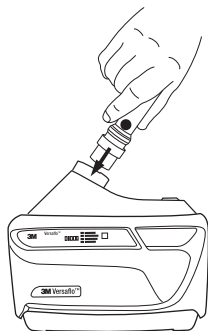

Fig. 14-1 Attaching airflow indicator
- Insert the TR-971 into the outlet of the TR-300+ motor/blower unit. If the breathing tube is in place, it must be removed to allow the airflow indicator to be inserted (Fig. 14-1).